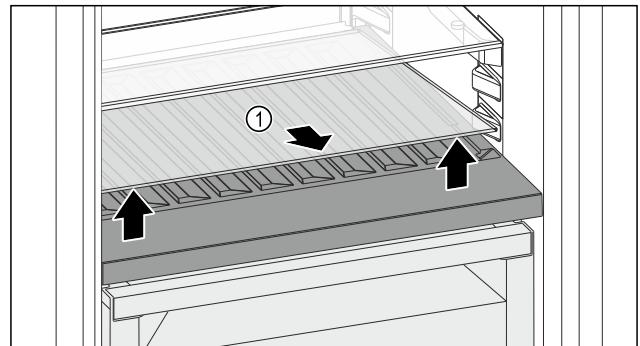

Fig. 115
- Lift the glass shelf Fig. 115 (1) at the front and remove.
- Store the glass shelf Fig. 115 (1) in a safe place outside the appliance.